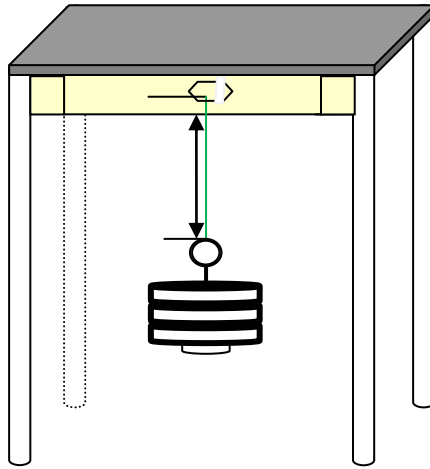

Figure 1: The rendering above depicts the test setup performed in the BAD Lab
1. Two different fishing lines were found in the lab and tested using the test set up shown in figure 1